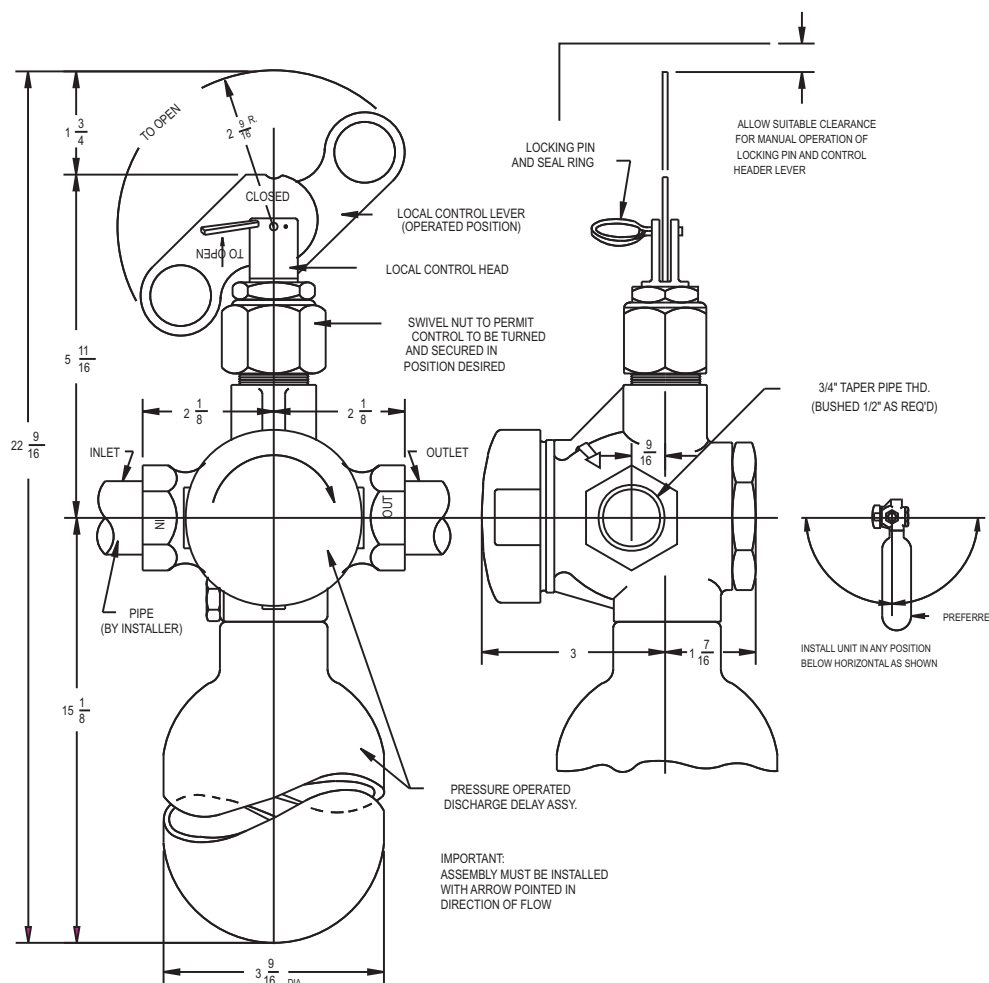

Figure 5-11. Installation Detail, Pneumatic Control Head
6. Attach adapter (P/N WK-699205-010) and connect nitrogen pilot lines as shown in Figure 5-11.
10. Install ball valve, P/N WK-283888-000, in actuation piping. Ensure ball valve is in the closed position. Install seal wire as shown in Figure 5-11.